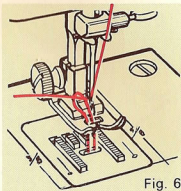

Fig. 6
6. Tighten clutch knob and remove bobbin (Fig. 6).
6. Hold needle thread loosely in left hand and rotate hand wheel toward you one complete turn. This will bring a loop of bobbin thread up through needle hole. (Fig. 6). Pull bobbin thread loop to surface and extend thread to back of machine.